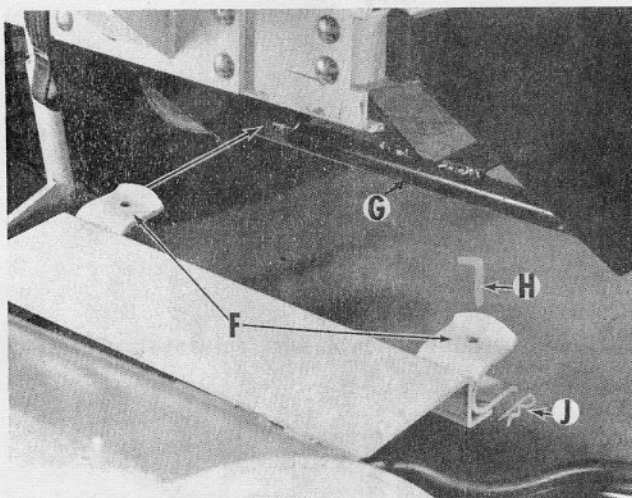

Fig. 12
Move tractor forward over mounting bracket until cross shaft of dual purpose mounting bracket has been positioned close to mounting yokes (F). Slide Snow Thrower assembly onto cross shaft of mounting bracket as illustrated at (G) and secure yoke assembly to the cross shaft with two clevis pins (H). Secure clevis pins using hair cotter pins (J) (Fig. 12).